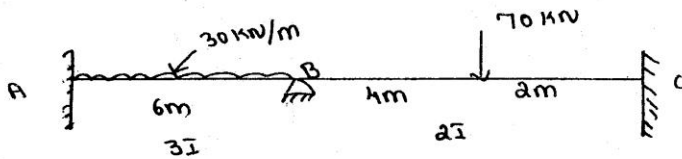

Figure-9
9. Analyse the continuous beam shown in figure-9 by stiffness method. (15)